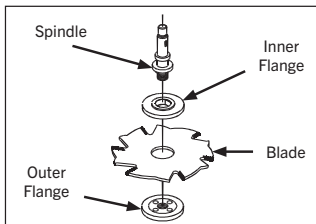

Fig. 22. Proper orientation of blade components for assembly.
**Note:** If switching between blades with 20mm and 22mm bores, flip inner flange over before installing new blade to accommodate change in bore size (see Figure 22).